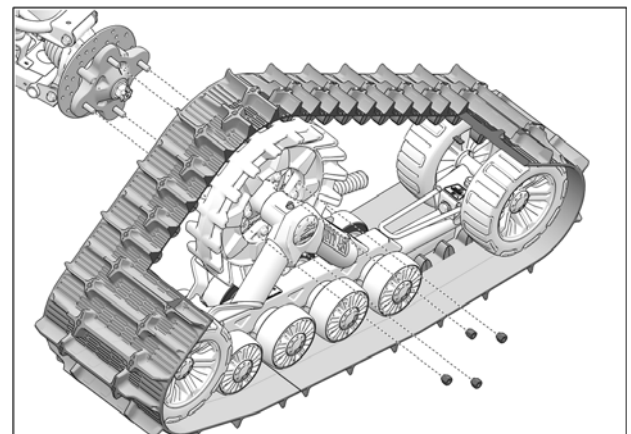

Fig. 9
- Secure undercarriage to rear hub using the vehicle's own lug nuts. See Fig. 9
7. Using the vehicle's own lug nuts, secure undercarriages to the front wheel hubs. The procedure and precautions are the same as for rear units. Refer to Fig. 9